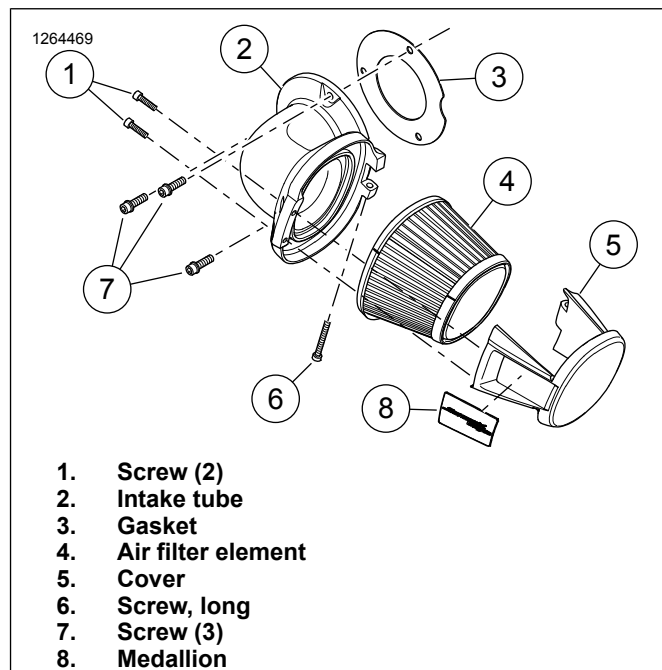

Figure 2. Air Filter Element
1. See Figure 2. Install **new** gasket (3) and intake tube (2).
2. Secure screws (7). Tighten.
- b. See Figure 2. Install air filter element (4) and cover (5).
- b. See Figure 2. Install air filter element (3) and cover (4).